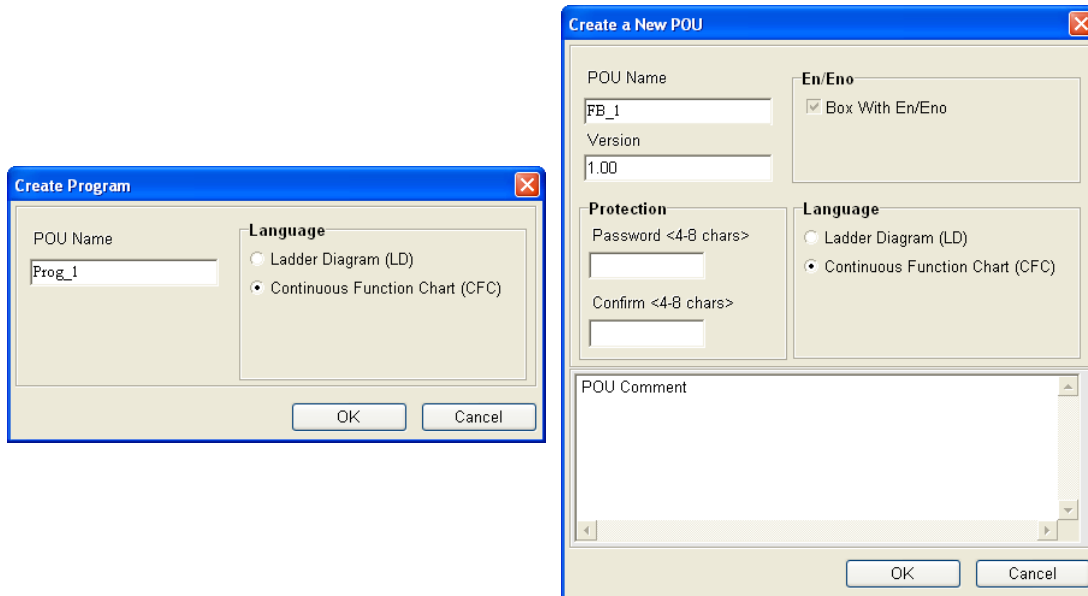

Figure 12-4 Creating a POU which is O100 (left), and a POU which is a function block POU (right)
- (1) If users want to create a POU which is O100 or a POU which is a function block, they have to right-click **O100** or **Function Blocks** in the system information area, and then click **New POU...** on the context menu which appears. The users can select the **Continuous Function Chart (CFC)** option button in the **Create Program** window or the **Create a New POU** window, as shown in figure 12-4. If the users want to create a POU which is a program, they have to expand a program section in the system information area, and double-click a number. Please refer to chapter 13 for more information.